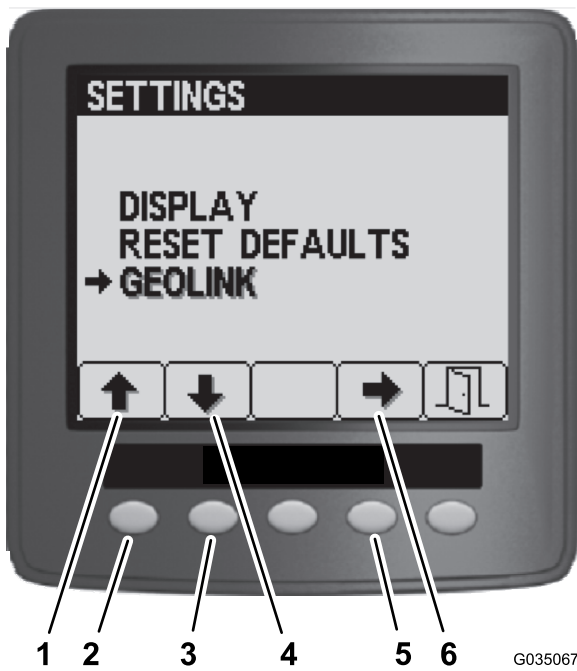

Figure 190
4. On the Settings menu, press button 1 or button 2 until the GeoLink option is highlighted, and press button 4 to navigate to the GeoLink menu (Figure 190).